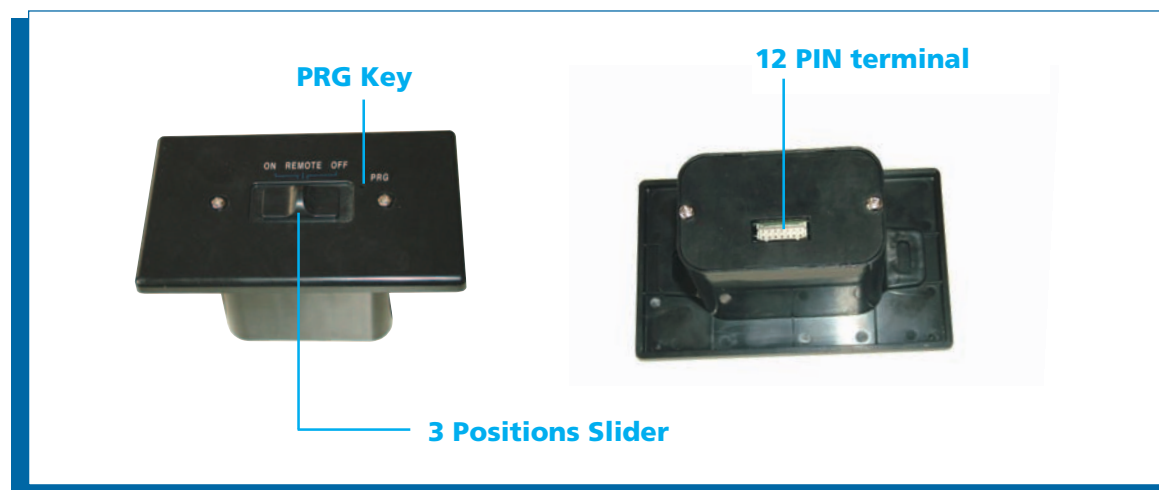

Fig. 3: Proflame Receiver body.
The Proflame Receiver (Fig. 3) connects directly to the gas valve with the wiring harness provided. The Receiver is powered by 4 AA type batteries. The Receiver accepts commands via radio frequency from the Transmitter to operate the appliance in accordance with the particular Proflame system configuration. The Receiver's three position slider switch can be set to one of three positions: ON (manual override), Remote (Remote control) or OFF.
Install the 4 AA batteries into the receiver battery bay. Note the polarity of the battery and insert into the battery bay as indicated on the Battery cover (+/-). Place the 3 position slider switch in the "Remote" position. (fig. 3) Using the end of a paper clip, or other similar object, insert the end of the paper clip into the hole marked "PRG" on the Receiver front cover (fig 3). The Receiver will "beep" three (3) times to indicate that it is ready to synchronize with a Transmitter. Install the 3 AAA type batteries in the Transmitter battery bay, located on the base of the Transmitter. With the batteries already installed in the Transmitter, push the On button. The Receiver will "beep" four times to indicate the Transmitter's command is accepted and sets to the particular code of that Transmitter. The system is now initialized.